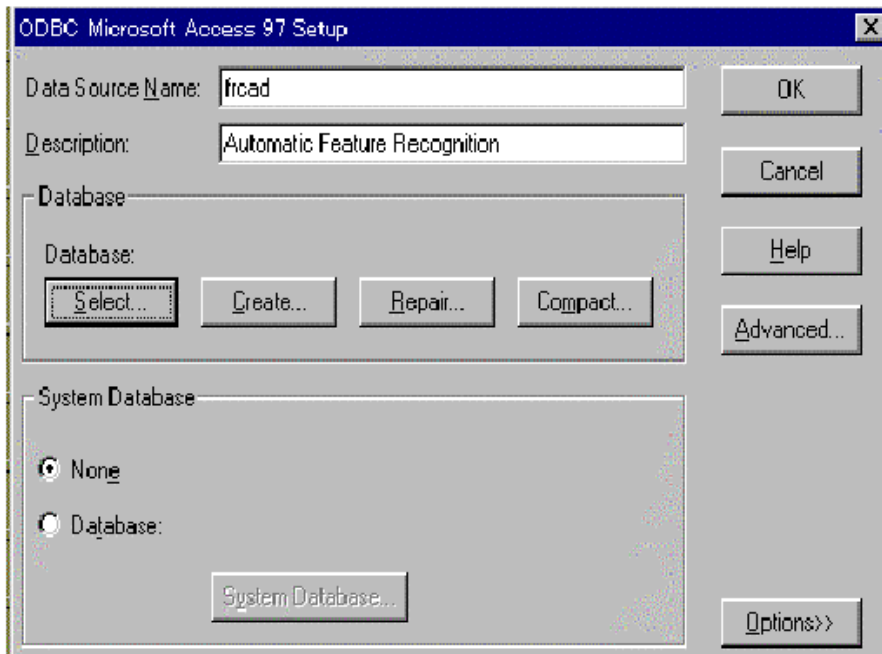

Figure 6-4. Data source input display
- The display will switch into Figure 6-4 for the user to input Data Source Name. The data source name for FRCAD is “frcad”. Input the name in small letter. Do not change the name or FRCAD will not run. User can input any description in the lower column. Click on “Select” button.